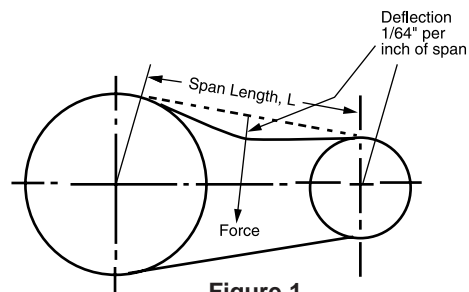

Figure 1
1. Measure the span length "L" of your drive (see Figure 1).